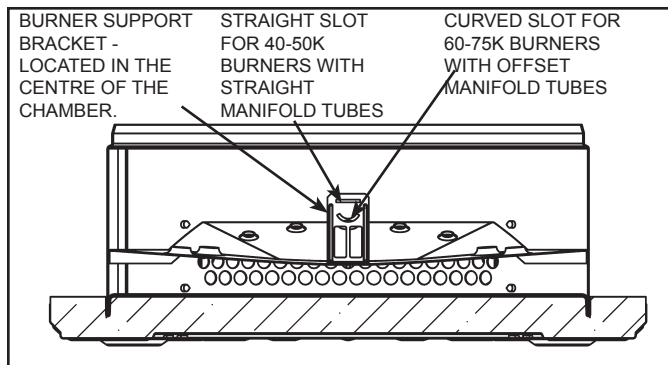

Figure 8. Manifold/Burner Assembly
1. Insert the manifold/burner assembly in the burner chamber compartment, making sure that the tip of burner manifold tab engages in the proper slot of the bracket. See *Figure 8* (page 10).